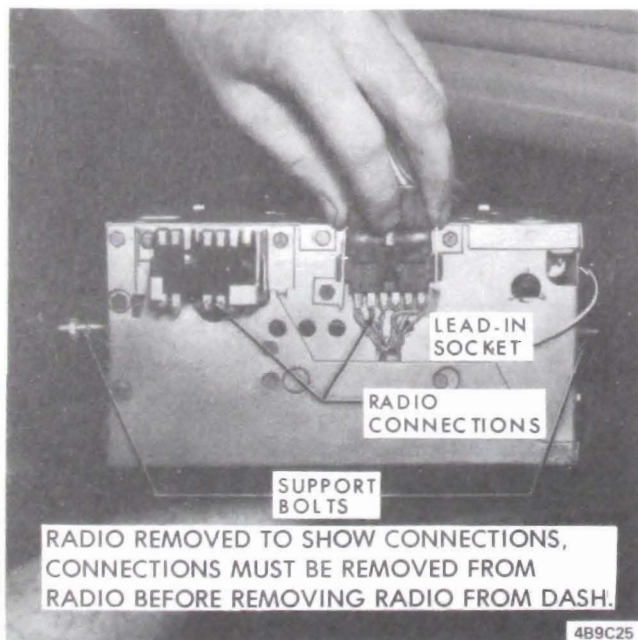

Figure 9C-27
3. Remove the retaining nuts (2) from the threaded portion of the control shaft.
4. Remove the ash tray by unscrewing (4) screws and pulling the ash tray and frame from the instrument panel.
5. Separate the (2) multiple connectors and antenna lead-in before the radio is removed. See Figure 9C-27.
6. Unscrew the nuts on the radio support bolts and remove the radio from the opening, lowering it from behind the instrument panel. See Figure 9C-27.
1. Install radio and secure with radio support, bolts, and nuts. See Figure 9C-27.